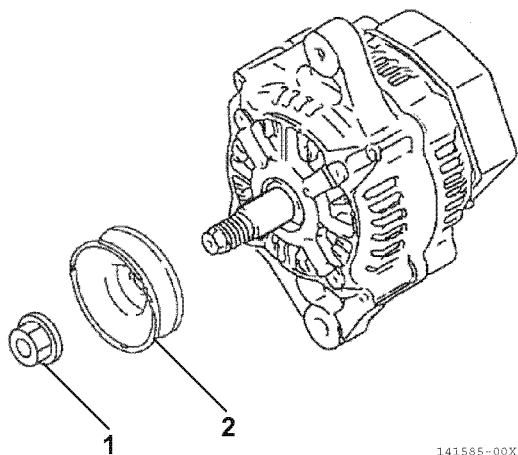

Figure 12-19
- Reassemble the pulley (2, Figure 12-19) and nut (1, Figure 12-19) to the shaft of the rotor assembly. Tighten the nut.